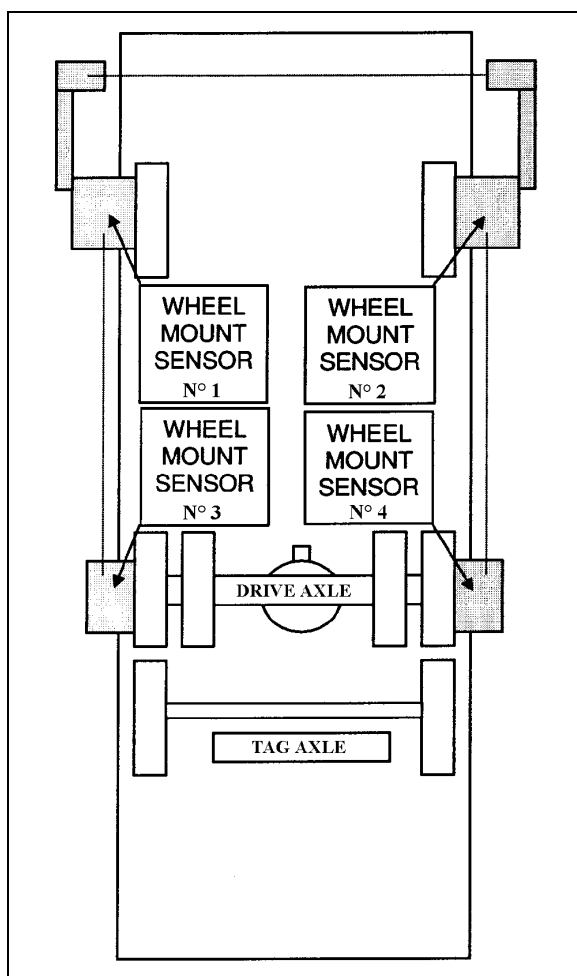

FIGURE 7: FRONT & DRIVE AXLE ALIGNMENT 11025
3. Install wheel mount sensors on front end and drive axle wheels (fig. 7).
See reference numbers on wheel mount sensors (fig. 7).
- With the system installed as in figure 7, adjust drive axle according to specifications' chart below.